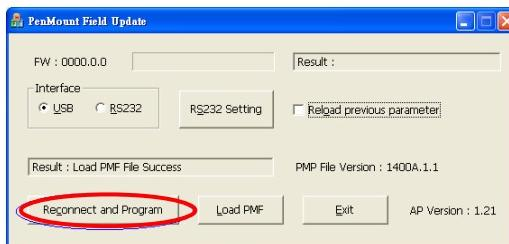

Fig.27
- Click on "Reconnect and Program" button (Fig.27)